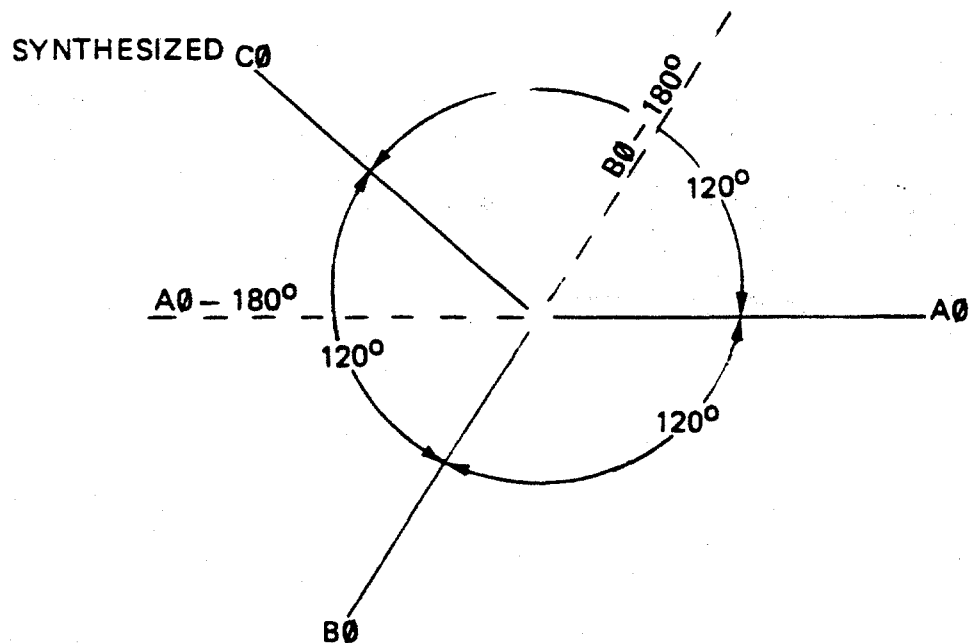

Figure 2-1. 2 Amplifier 30 Wye Configuration
2.4.2 With those single-phase Elgar power sources which have dual output windings, two power sources may be interconnected for three-phase wye operation. One of the output windings on each of the A-phase and B-phase sources is used for the A-phase and B-phase outputs. The C-phase output is synthesized by inverse series connection of the remaining two windings, as diagrammed in Figure 2-1.